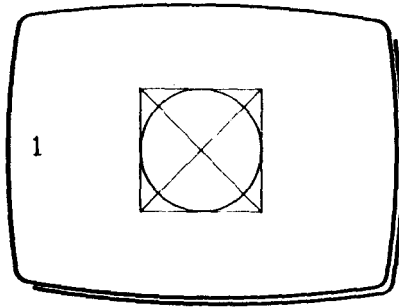

Fig 1
- 2 **Draw the shape in Fig 1.**